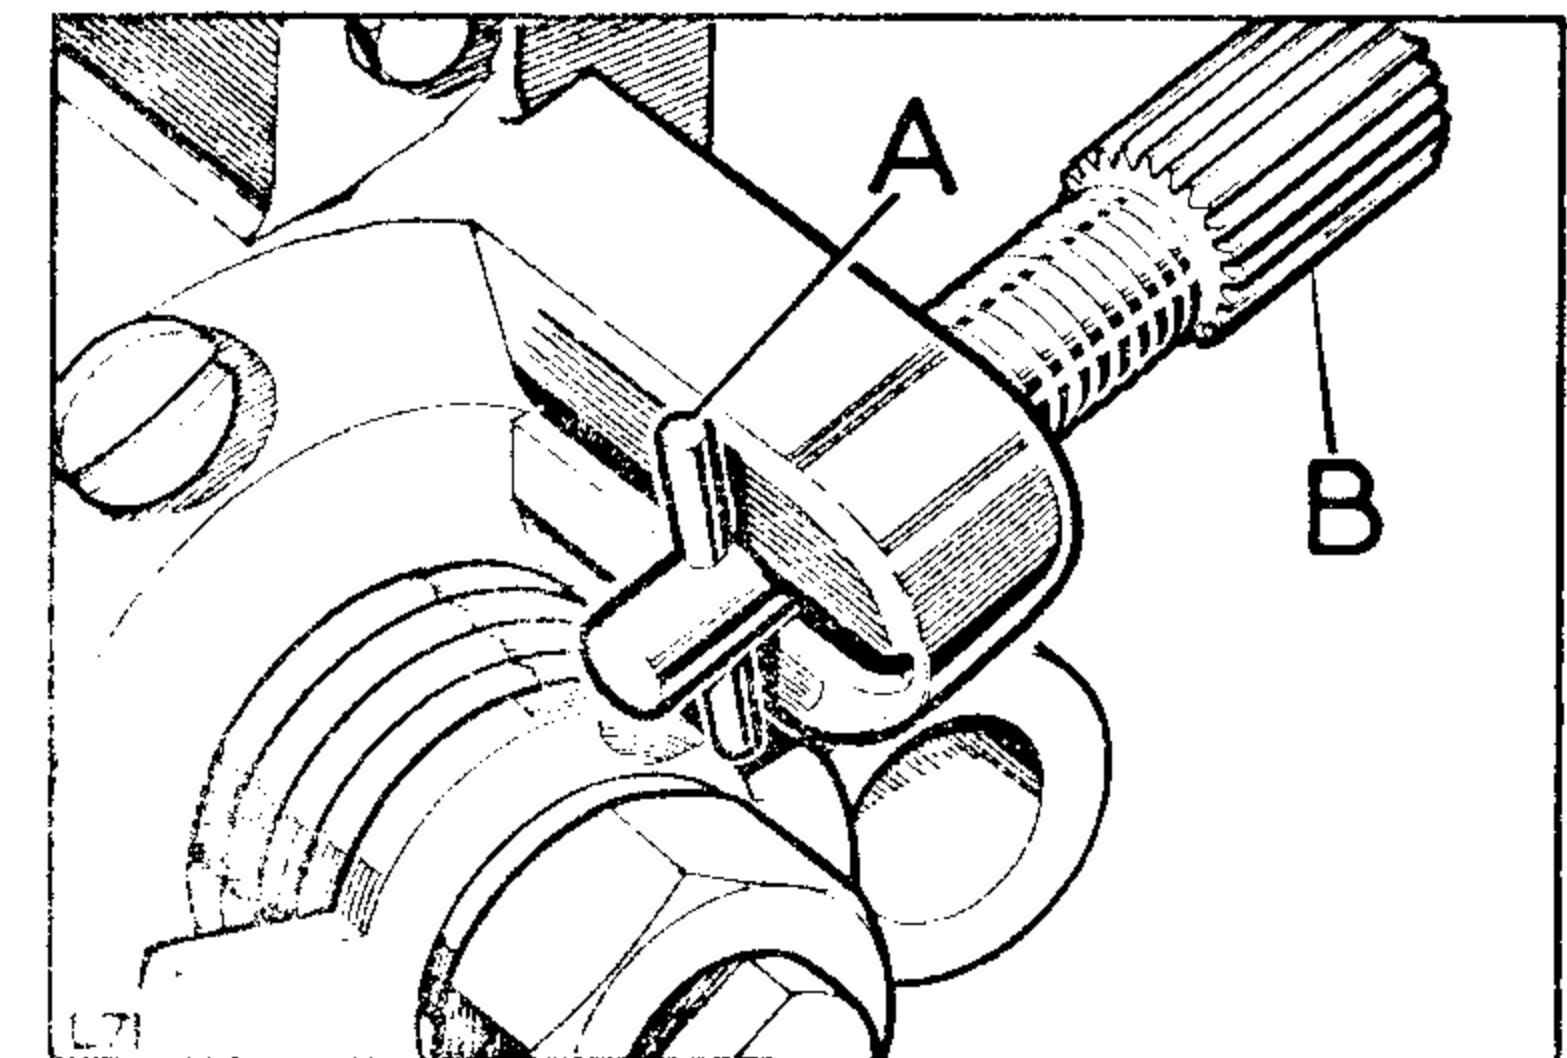

Fig. 11
For starting at temperatures down to -18°C (0°F) push and turn the spring-loaded choke adjustment screw (B) Fig. 11 so that the peg (A) Fig. 11 is at right-angles to the slot. Leave in this position.